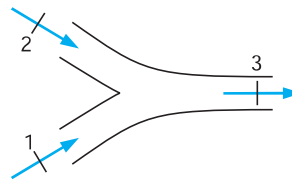

FIGURE P6.93
- 6.93** Two air flows are combined to a single flow. One flow is 1 m³/s at 20°C and the other is 2 m³/s at 200°C, both at 100 kPa, as in Fig. P6.93. They mix without any heat transfer to produce an exit flow at 100 kPa. Neglect kinetic energies and find the exit temperature and volume flow rate.